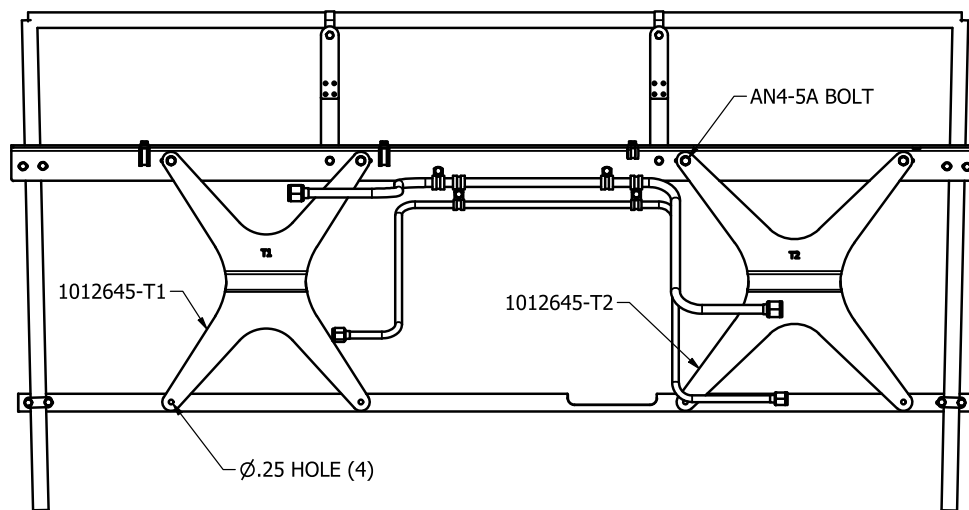

FIGURE 9
e. Install tooling 1012645-T1 and 1012645-T2 with AN4-5A bolts. Match drill four Ø.25 holes into fuselage steering support bracket (10A12357-086). Once holes are drilled, remove tooling. See Figure 9.